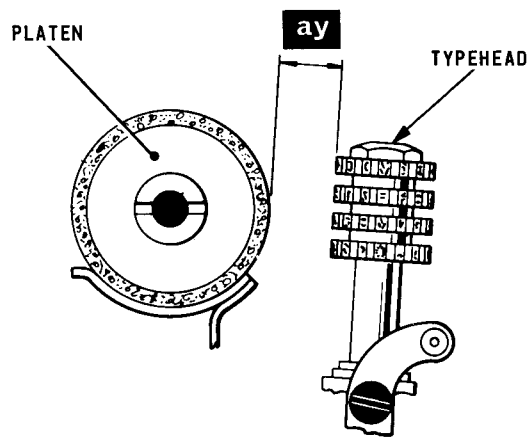

Fig. 4.48 TYPEHEAD/PLATEN CLEARANCE
- 55.1 Depress the letter 'X' key or, if the machine has no keyboard, set up the letter 'X' combination (MSMMM) on the pins. Lift the translator clutch abutment and turn the machine by hand until the print lever, Fig.4.7, is on the highest point of its cam (just prior to fall off). Using slip gauge TA1338, check that there is a clearance of approximately 0.5 in. (dimension 'ay') between the typehead, Fig.4.48, and the platen.